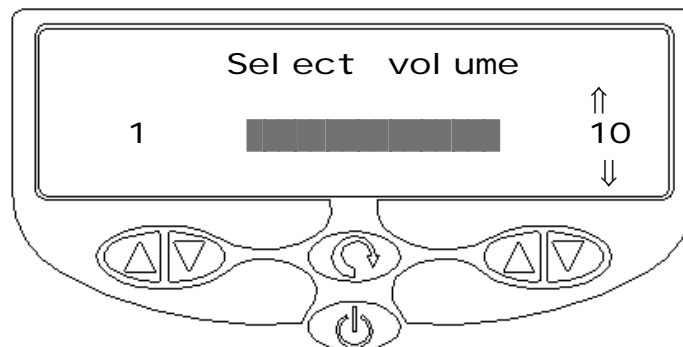

Fig 4.6 Screen for Alarm volume selection
**Volume Adjustment** - The activation tone volume can be adjusted between minimum and maximum using the up control of the desiccate (blue) power control. Depress and release the Mode / Menu button until the symbol "**SELECT VOLUME**" appears (Fig. 4.6). Press and release the Mode / Menu button once more to accept the setting.